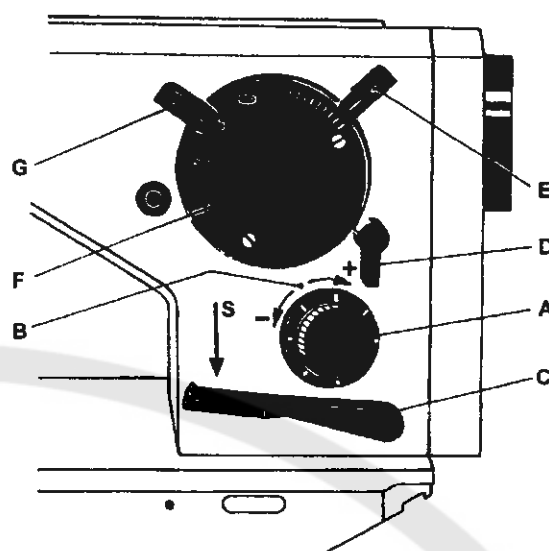

Fig. 11
Revolve the stitch length adjusting revolving knob (dial) (A, Fig. 11) situated on the machine arm so as to align with the mark (B) on the machine arm the respective number of the dial indicating the stitch length. Turn the dial in the direction (+) to increase the stitch length, or (-), to reduce it.
Before any adjustment of the zigzag stitch width and position, the machine must be stopped with the needle raised outside the sewn material. Swing the lever (D, Fig. 11) to the left (anticlockwise) and hold it there throughout the adjustment procedure. Swinging the lever to the right will fix the adjusted width and position of the zigzag stitch. Depending on the machine type, the stitch width is steplessly adjustable from zero to 10 mm by means of the lever (E) projecting out of the cover (F) of the zigzag stitch mechanism. Turning the lever to the right (toward the handwheel) will increase the stitch width up to the maximum of its value, turning it to the left will reduce it up to zero. To adjust the zigzag stitch position use the lever (G) projecting out from the side of the cover (F) of the zigzag stitch mechanism. (This adjustment is possible only with the models 72523 - 101, 105; 72524 - 101, 105; and 72526 - 101, 105.)